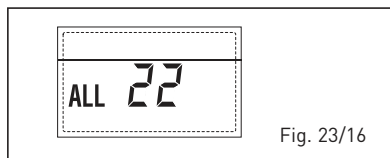

Fig. 23/16
– **ANOMALIA GUASTO Sonda MANDATA SECONDA ZONA MISCELATA “ALL 23”** (fig. 23/17)